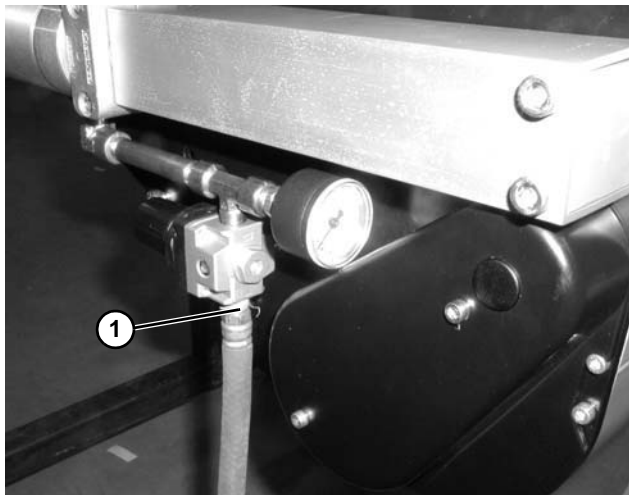

Figure 124
1. Remove air supply (**Figure 124, item 1**) from center drive module.